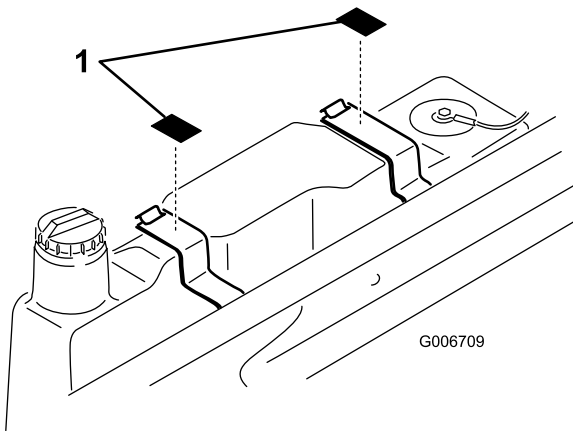

Figure 19
54. Affix a "No Step" decal to top of each fuel tank mounting strap, as shown in Figure 19.